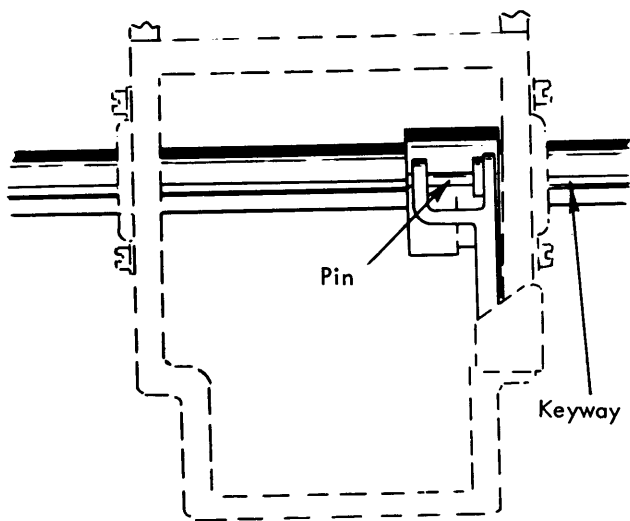

FIGURE 82. Keyway In Line With Roller
- a. With the machine resting on its back, slowly hand cycle a high velocity character until the leading edge of the print shaft keyway lines up with the center of the roller pin on the cam follower (Fig. 82).